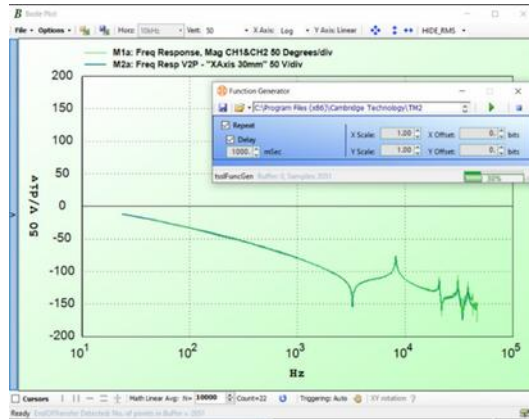
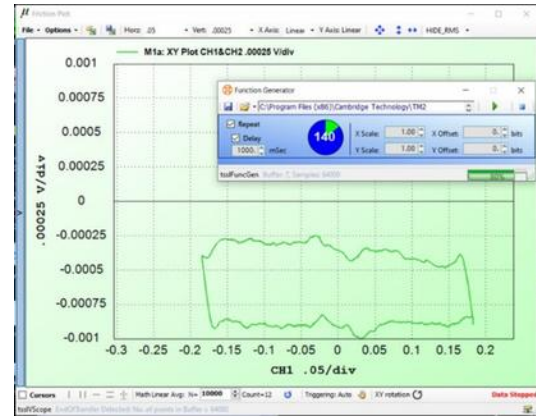

Figure 38: Example: Bode Plot
Figure 39: Example: Friction Plot
3. In the menu, click **Tools** → **Bode Plot** or **Tools** → **Friction Plot**, depending on the type of plot desired; see Figure 38 and Figure 39 on page 84.